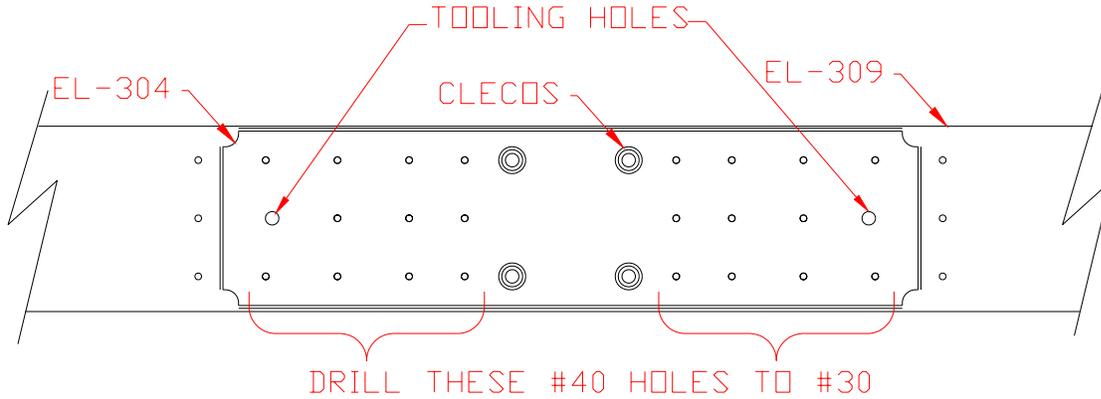

Figure 3.1.1
- 2) Using the four 3/16” holes, cleco the Elevator Center Doubler (EL-304) to the center of the Elevator Spar (EL-309). Drill all #40 holes into the doubler that are within the area of EL-304, using EL-309 as a guide. Drill these #40 holes to #30. Figure 3.1.1.